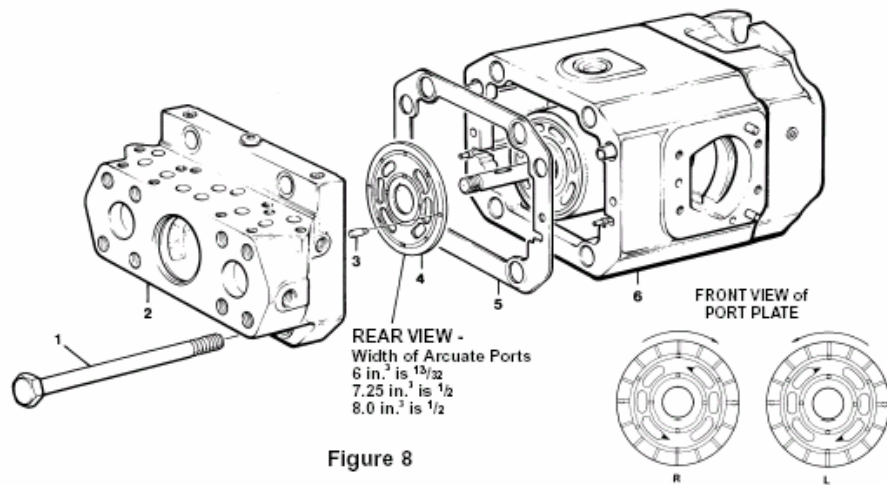

Figure 8
See Figure 8. Position the pump with the unplugged hold in the housing assembly at 12 o'clock position.
**PARTS LIST FOR FIGURE 8**